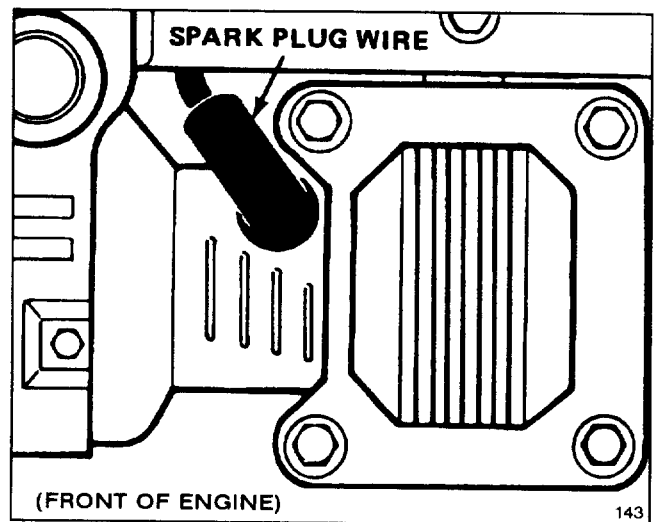

Figure 5
2. Push spark plug wire onto spark plug (Fig. 5).
1. Stop engine and pull wire off spark plug (Fig. 5).
1. Stop engine. Pull wire off spark plug (Fig. 5).